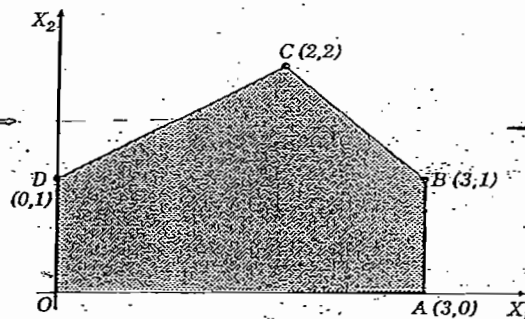

Fig. 32-12
In the x_1, x_2 -plane, the five constraints show that the point (x_1, x_2) lies within the shaded region $OABCD$ of Fig. 32-12. Values of the objective function $Z = 2x_1 + x_2$ at these corners are $Z(O) = 0, Z(A) = 6, Z(B) = 7, Z(C) = 6$ and $Z(D) = 1$. Hence the optimal solution is $x_1 = 3, x_2 = 1$ and $\text{max. } (Z) = 7$.